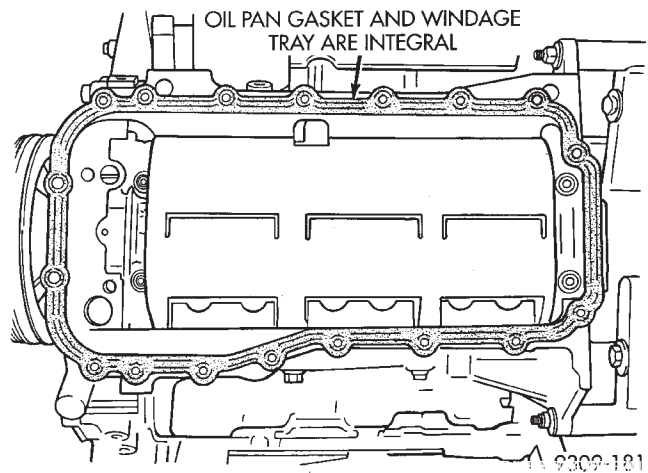

Fig. 71 Windage Tray/Oil Pan Gasket
- (7) Remove the windage tray/oil pan gasket (Fig. 71).
NOTE: The windage tray and oil pan gaskets are integral (Fig. 71). The silicone rubber gaskets are bonded to both sides of the windage tray. This assembly is reusable provided it is not damaged upon removal.
- (2) Install the windage tray/oil pan gasket (Fig. 71).
- (3) Install oil pick-up tube into oil pump body and tighten screw to 28 N·m (20 ft. lbs.).
- (4) Install pan and tighten fasteners to 12 N·m (105 in. lb.).
- (5) Install transmission support brackets and inspection cover.
- (6) Connect the sway bar.
- (7) Lower vehicle and install oil dipstick.
- (8) Connect negative battery cable.
- (9) Fill crankcase with oil to proper level.